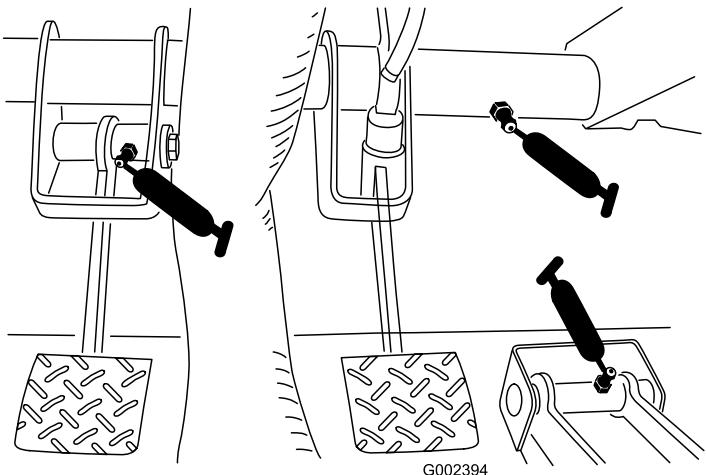

Figure 32
- Clutch (1), accelerator (1), brake (qty. 1) (Figure 32)